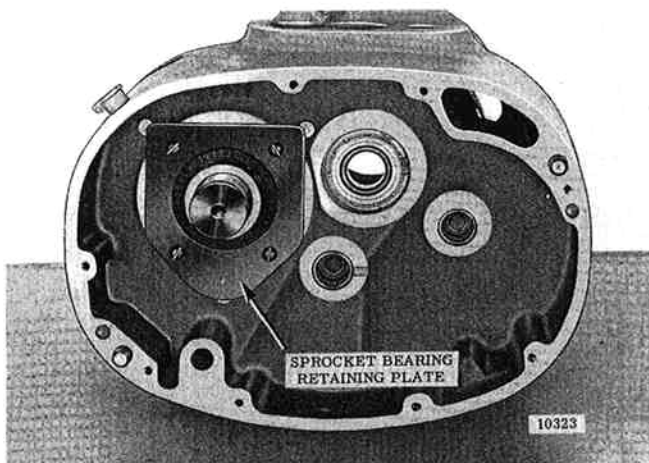
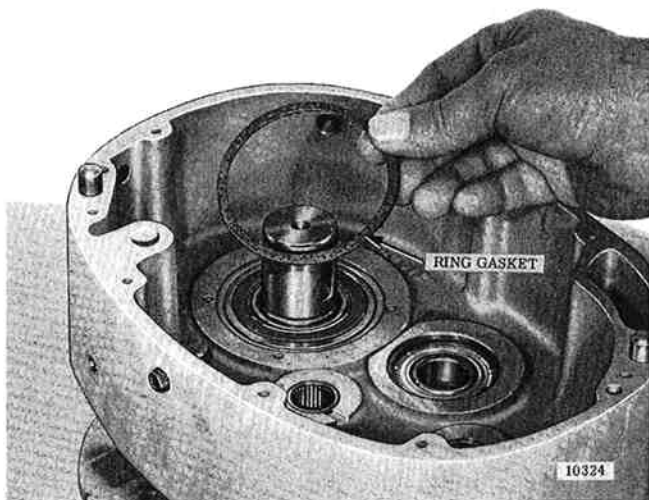

Figure 7-11. View of Sprocket Bearing Retaining Plate.
Figure 7-12. Removing sprocket Bearing Ring Gasket.
(2) Unscrew four fillister head machine screws securing sprocket bearing retaining plate and remove plate (fig. 7-11). Remove and discard ring gasket from groove around bearing or remove seal disc (fig. 7-12).